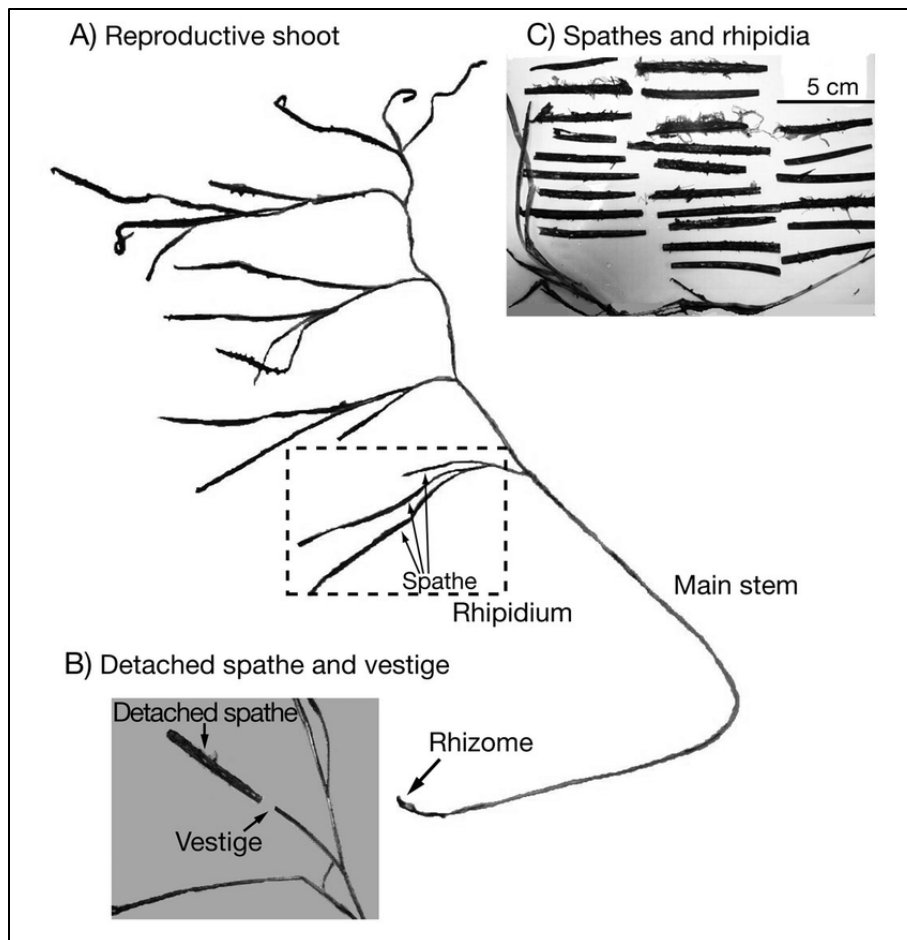

Fig 2. Eelgrass reproductive shoot morphology. Source: Hosokawa et al 2015
The seeds on a reproductive shoot are contained within spathes, which protect the developing seeds until they dehisce or separate from the plant. Spathes are clustered in branches called rhipidia (Fig 2). Immature seeds are green in color, and mature seeds tend to be dark brown or almost black in color. The timing of seed maturation can extend over a number of weeks in one meadow, and is a critical piece of information to gather for restoration planning purposes. We would like to know the earliest date when seeds reach maturity and when most seeds have dropped.
1. Identify the reproductive components of the plant (Fig 2).